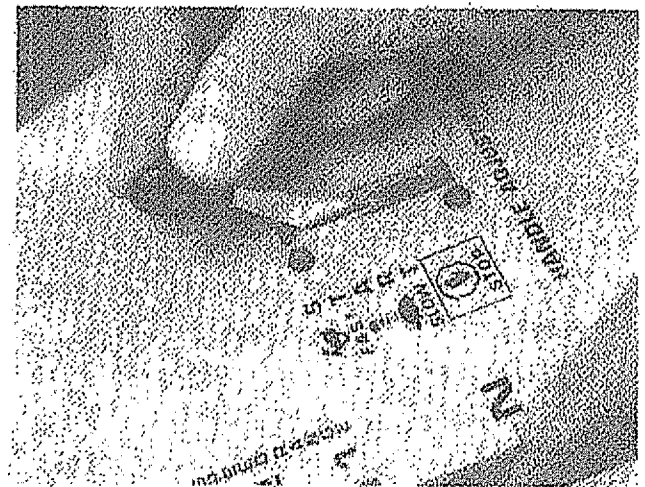

FIGURE 20.
- B. Start—Push throttle control lever forward (down) to start position. See figure 20.
4. Place the throttle control lever in **FAST** position. See figure 20.